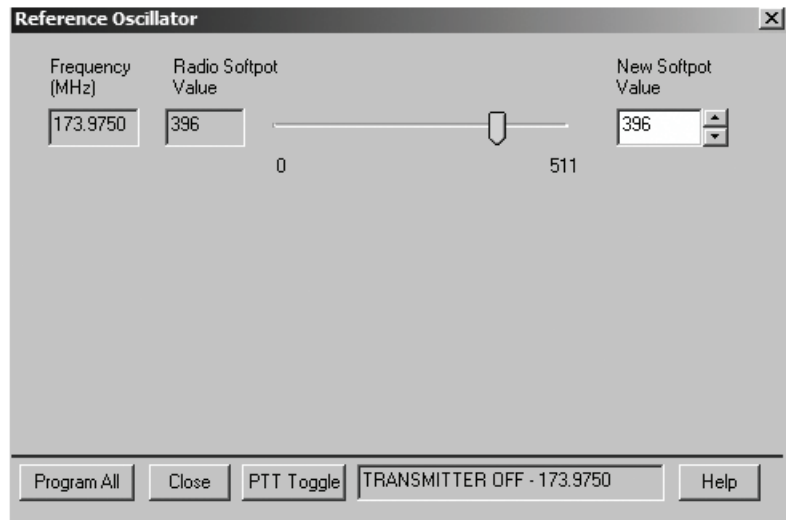

Figure 8. Reference Oscillator Alignment Screen
1. Select the **Reference Oscillator** alignment screen. See Figure 8.